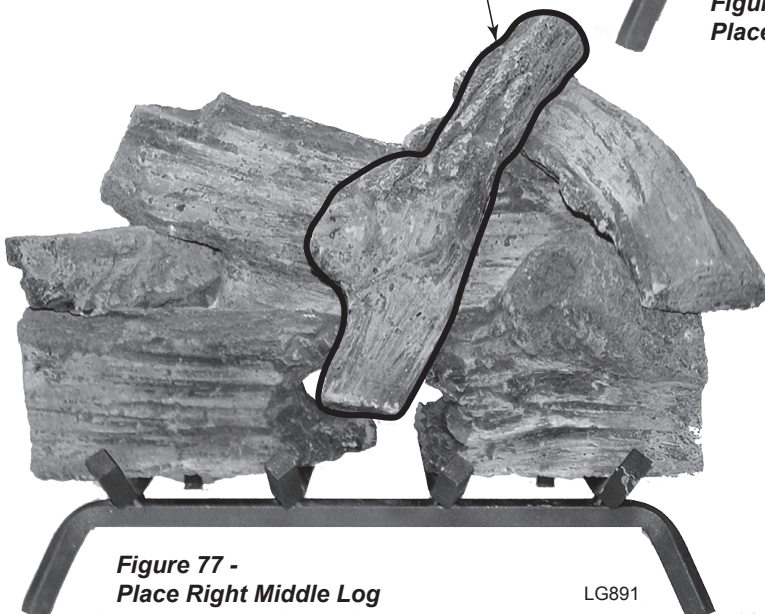

**Figure 76 -
6. Rest front end of Right Log #4 on right top of Log #1b. The back end of Log #4 rests to right hump on Log #3. *Figure 76*